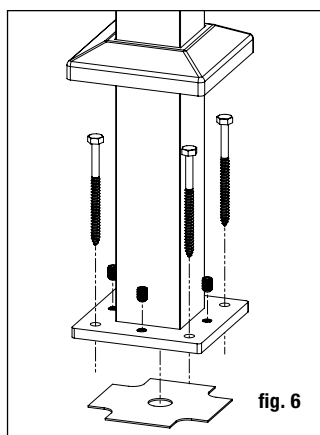

fig. 6
Step 4 Reposition the post assembly with the leveling plate inserted between the deck and the post base, and aligned with the predrilled holes. Insert the post fasteners (**NOT INCLUDED**), and partially tighten. Using a level, adjust the leveling set screws with a 3/16" allen wrench until the post is plumb. Fully tighten the post fasteners to secure the base to the deck structure. *Note: Recommended 5/16" x 4" or longer lag screws* (fig. 6).